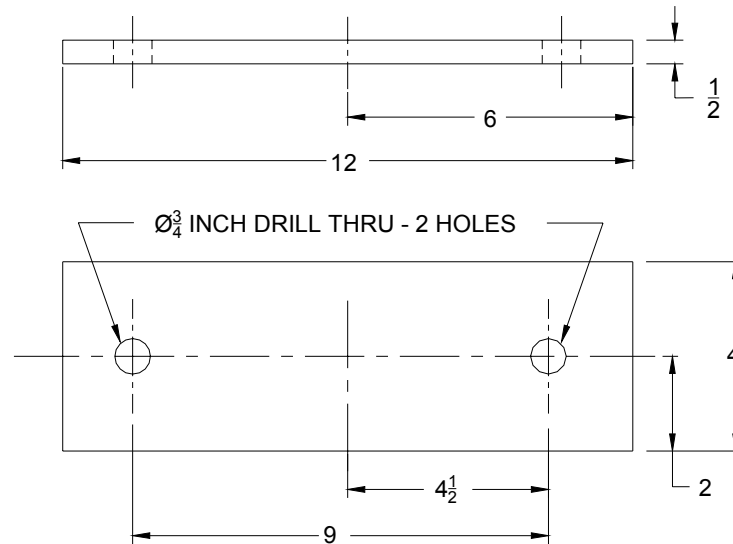

Figure 2. Bearing Puller
2. Loosen setscrew (56). Remove nut (55).
3. Remove coupling hub from pump shaft. Remove drive key (54).
4. Loosen setscrews (75). Remove check nut (33). Remove check nut (32).
5. Remove ball bearing retainer (34) by removing bolts (35) and lock washers (36).
6. Pull power rotor (22) assembly together with bearing and seal assembly forward from pump until seat adapter (63) extends from pump.
7. Cut two 3/4 -10 continuous thread studs (24 inches minimum) to thread 1-1/8 inches into inboard cover (13) and extend a minimum of 2-1/2 inches past end of power rotor (22) shaft. Install studs in inboard cover located 180 degrees apart. Thread a nut on each stud to lock stud in position. Refer to figure 2 and cut a 1/2 inch thick metal plate approximately 12 inches long and 4 inches wide. Drill two 3/4 inch holes, 9 inches apart in the metal plate. Place drilled flat metal plate over end of power rotor (22) shaft with studs fitting in drilled holes. Install nuts on ends of both studs.